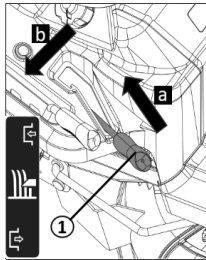

Figure 23
2. Pull the lever (Figure 23 ①) for switching on the mowing mechanism upwards (Fig. 23 a) and engage it (Fig. 23 b). The mowing mechanism is now running.